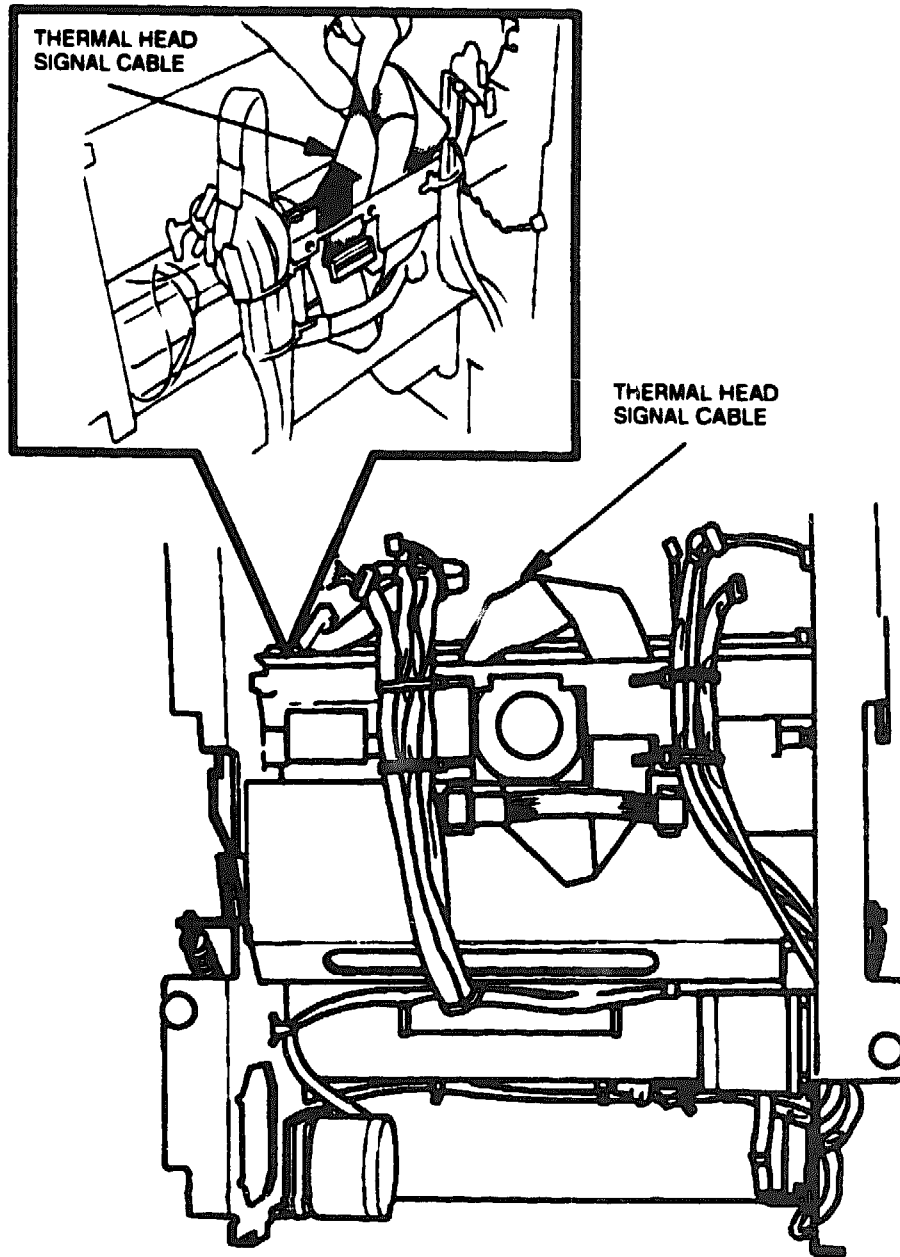

Figure 6-76 Thermal Head Signal Cable Removal
2. Remove the bottom DC fan (C) from the printer base.
3. Remove the head signal cable from the printer (see Figure 6-76).